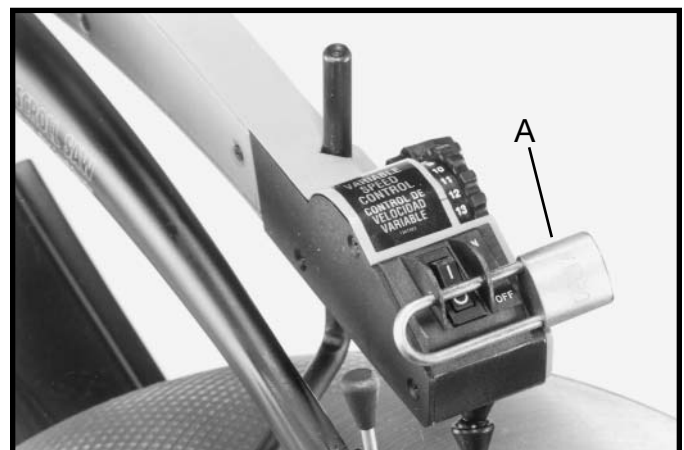

Fig. 17
**IMPORTANT:** We suggest that when the scroll saw is not in use, the on-off switch be locked in the "OFF" position using a padlock (A), as shown in Fig. 17. Available as an accessory from Delta is the 50-325 padlock, shown at (A).